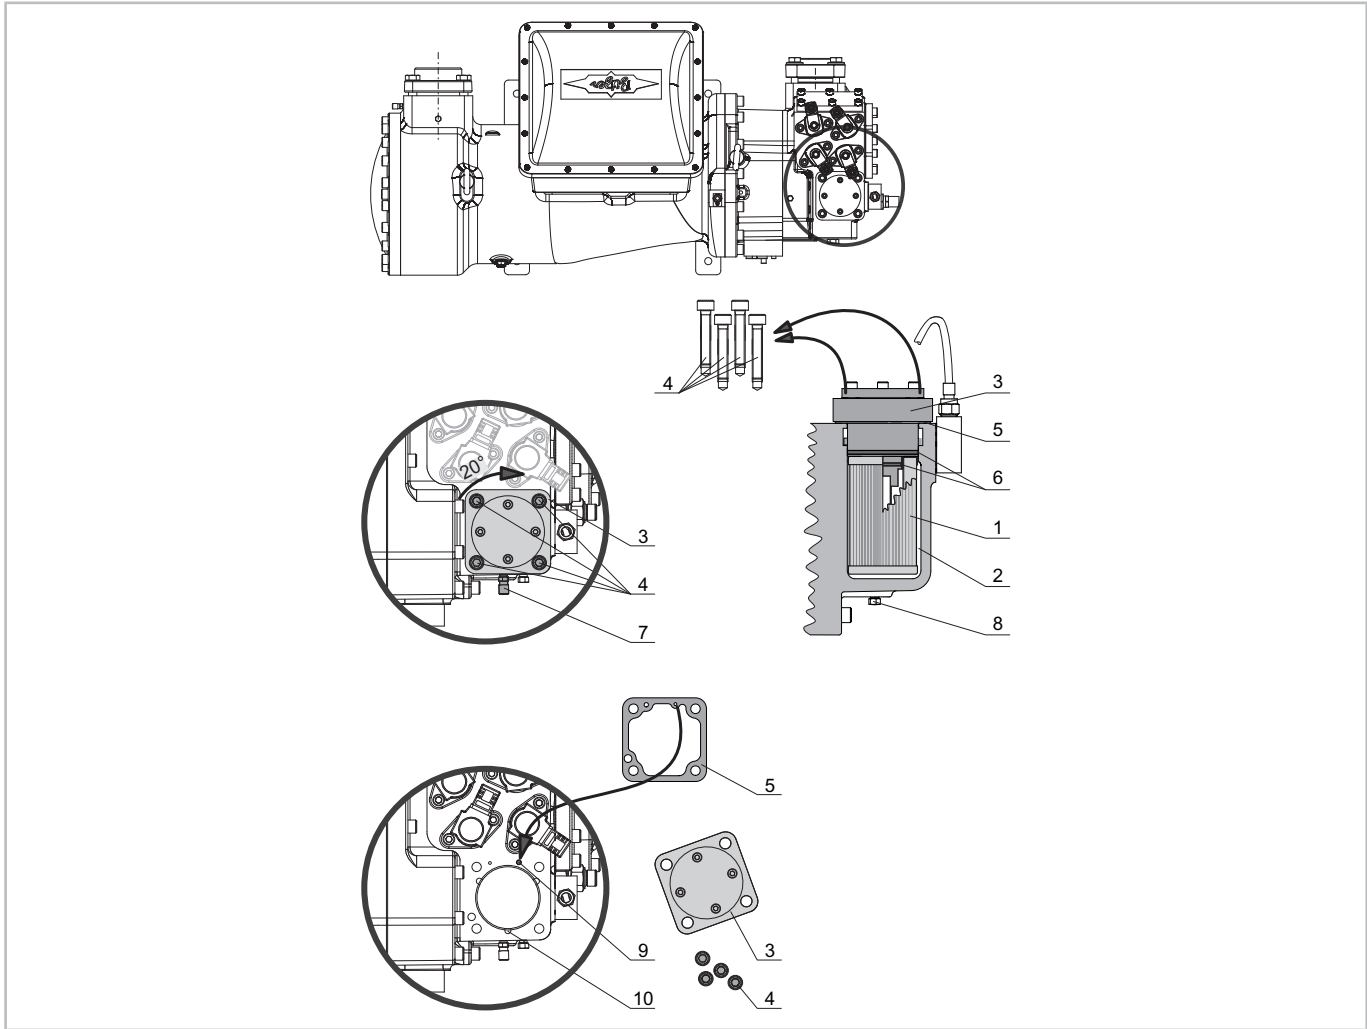

Fig. 13: HS.85: Replace oil filter
- HS.85: in front of the oil filter chamber, for replacement of the internal oil filter (see figure 13, page 53).
HS.85: Replacing the internal oil filter (see figure 13, page 53)